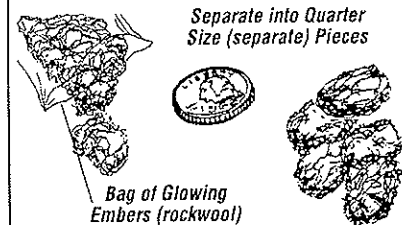

Figure 6
4. Placement of Glowing Embers - Separate the Embers (rockwool) into pieces about the size of a quarter (see *Figure 6*). Keep the pieces fluffed up, not matted. Distribute these pieces over the surface of the burner, as shown in *Figure 7*. Do not use more than is necessary. Ensure that the main burner slots remain uncovered by the ember material.